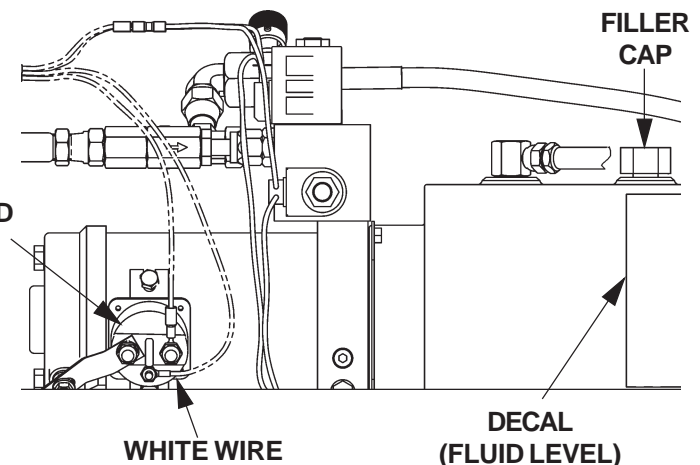

FIG. 11-2
3. Disconnect the White Wire (FIG. 11-2) from Motor Solenoid. Lower the Platform while draining the remaining hydraulic fluid from system. Re-install Drain Plug. Reconnect the White Wire to Motor Solenoid.
4. Remove Filler Cap (FIG. 11-2) and refill reservoir to the level shown on decal.
5. Raise Platform to vehicle bed height. Check hydraulic fluid again and, if needed, add more hydraulic fluid (FIG. 11-2).
6. Reinstall Filler Cap (FIG. 11-2).